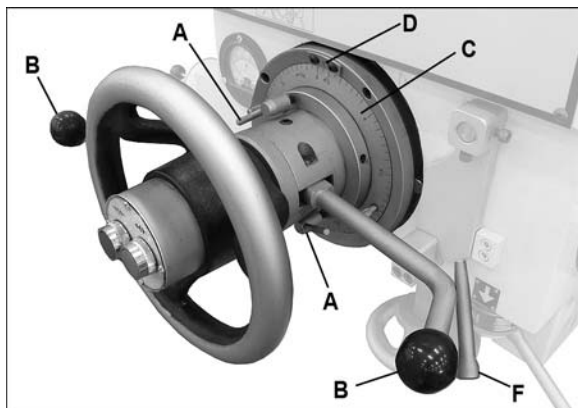

Figure 14: Depth setting; power feed engagement
Refer to Figure 14.
1. Unlock both levers (A, Figure 14).
2. Rotate feed levers (B) to lower drill until it touches workpiece.
3. Rotate dial (C) until required feed depth on scale is at zero reference mark (D).
4. Lock both levers (A).
5. Push power feed engagement lever (F) toward the left.
6. Pull feed levers (B) out to engage power feed clutch. The power feed mechanism will feed drill into workpiece at the rate selected on feed rate dial, until selected depth of cut is complete.